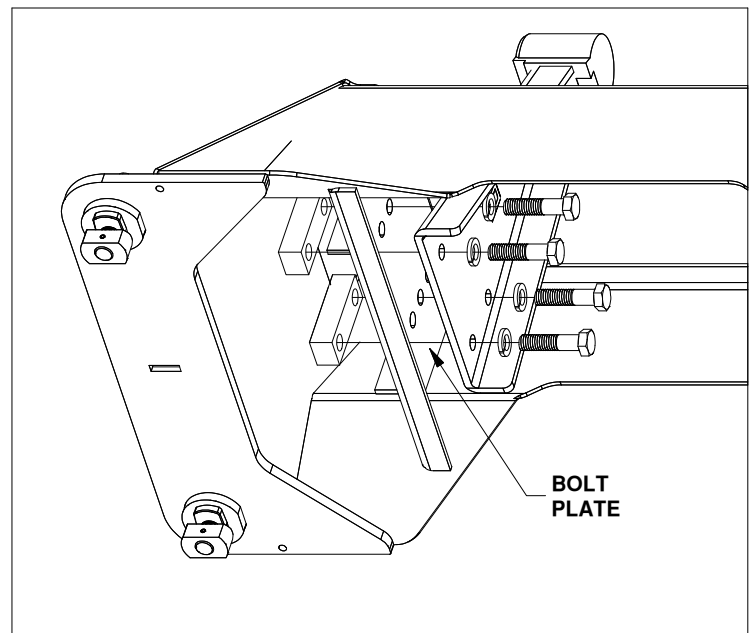

FIGURE A2: Passenger pivot arm mounting location.
2. Locate both pivot arms, the four 3/4" threaded blocks, eight 1/2" cap screws, and eight 1/2" split lock washers. Place the lock washers over the cap screws. Align the flat side of the pivot arm flat against the bolt plate and install four 1/2" cap screws through the holes on the arm, holding the arm in place, as shown in figure A2. Locate the threaded blocks. Note that the sides of the block have threaded holes on one side and smooth bored holes on the other side. When installing the threaded blocks it is critical that the side with the smooth holes is flat against the bolt plate when installed. Pass the threaded block under the bases side and align the block with each set of screws and start each screw, as shown in figure A2. After all the screws are started through the arms, torque each bolt to 80 ft-lbs.